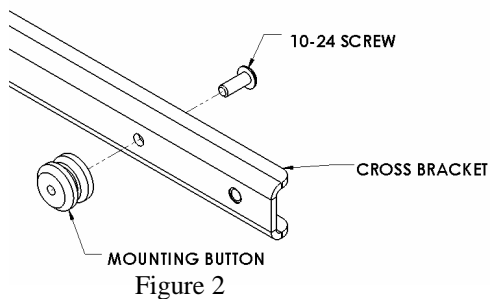
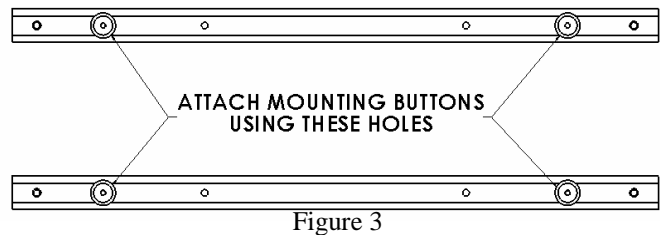

Figure 2
Figure 3
1. Using a 10-24 button head cap screw inserted from back side of bracket, secure mounting button, with chamfered hole of mounting button (larger surface) facing bracket, to upright brackets (four places) (see Figure 2 & Figure 3).